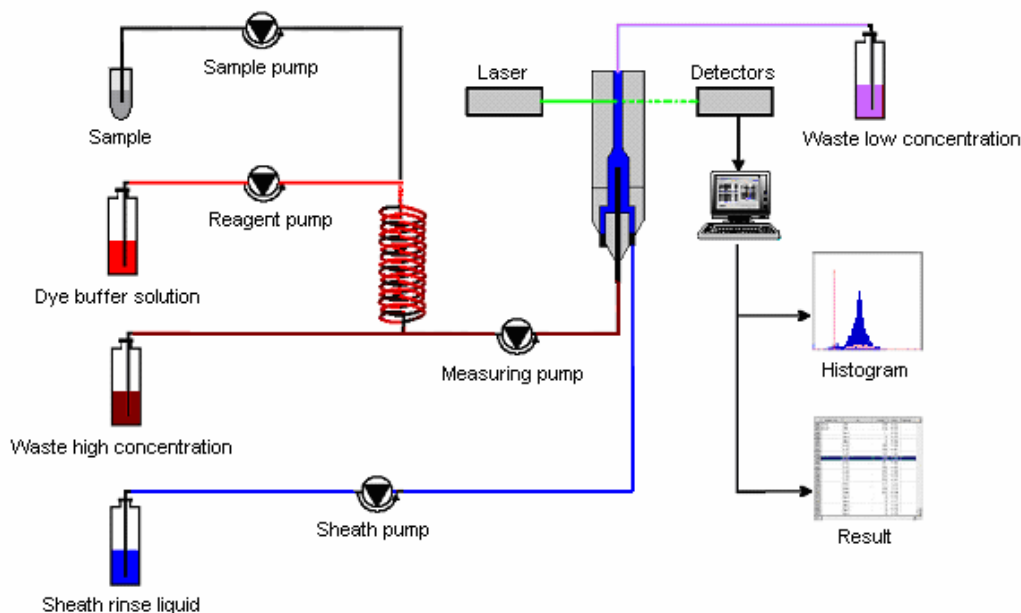

Figure 2 A schematic illustration of the working principle of the YeastCyte® system
The YeastCyte® system consists of three parts: (i) a built in liquid handling system that mixes the yeast sample and the dye buffer (PI). (ii) A built in optical system (flow cytometer) that measures the light scatter and fluorescence from the stained yeast cells and (iii) a computer system analysing and presenting the measurements. A schematic presentation of the working principle is illustrated in Figure 2.